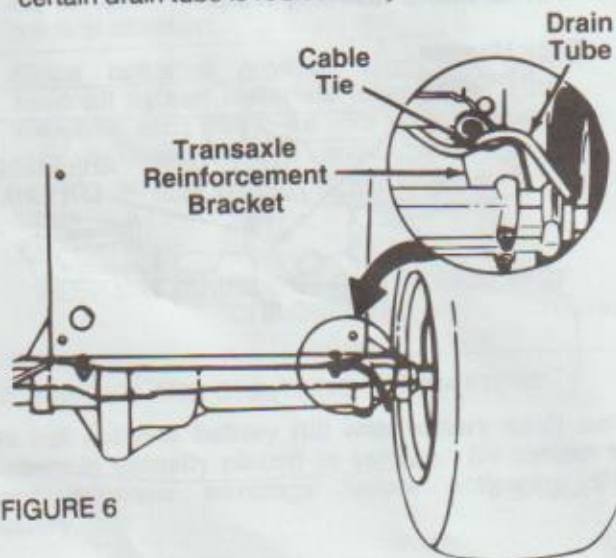

FIGURE 6
7. Insert the drain tube through the hole in the transaxle bracket or through the cable tie (if so equipped) which is attached to the transaxle reinforcement bracket on the right side of the unit. See figure 6. Be certain drain tube is routed away from the wheel rim.